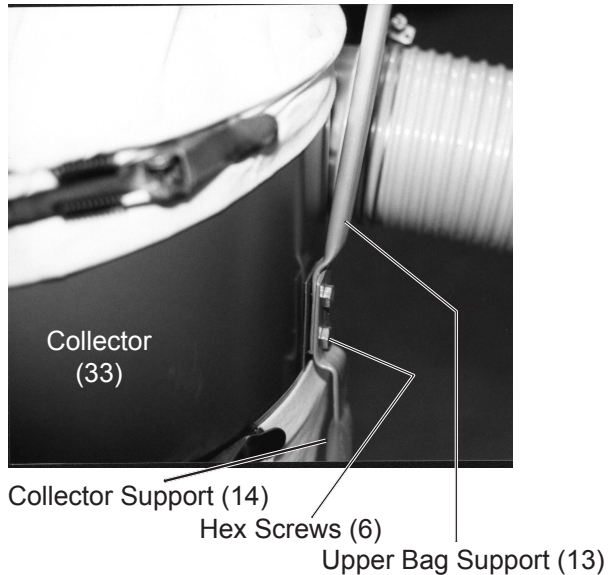

Figure 5
- f. Step 6) Connect the Upper Bag Support (13) to the Collector Support (14) and Collector (33). Thread in both Hex Screws (6) through the Collector Support (14) and through the Upper Bag Support (13) and into the Collector (33). (See Figure 5.)